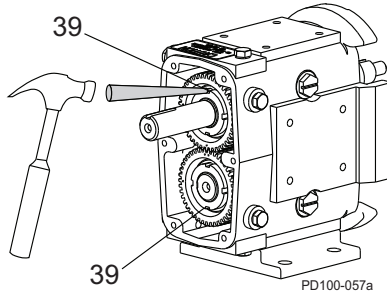

Figure 217 - Bend Locking Tab
- Bend the locking tab on the lock washers into the locking nut slots, securing the gear locknut into place (Figure 217).